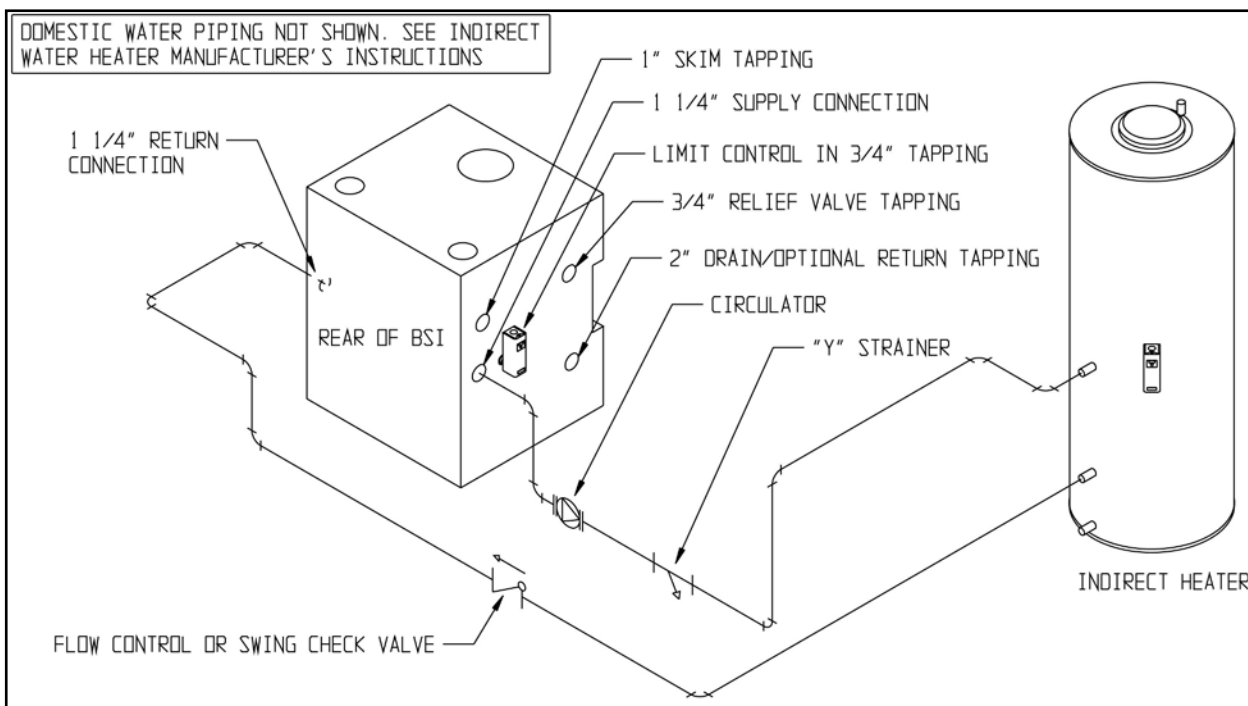
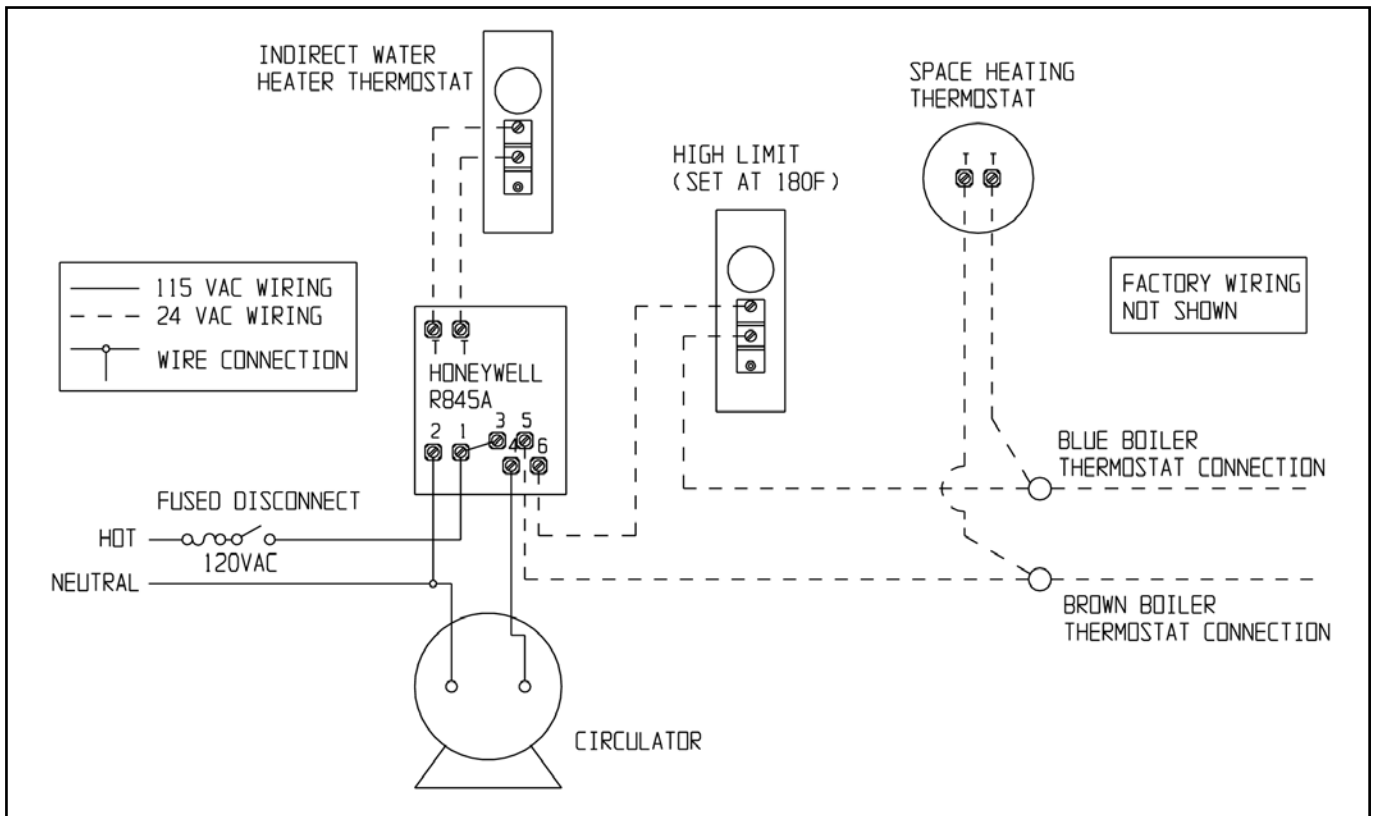

FIGURE 13: INDIRECT WATER HEATER BOILER-SIDE PIPING
FIGURE 15: WIRING INDIRECT WATER HEATER TO BOILER
- 1) **Circulator** - Mount the circulator as shown in Figure 13. The circulator should be located as low and as close to the boiler as practical. Do not install valves, or other devices having a significant pressure drop, between the boiler and the circulator inlet. All piping between the boiler and the circulator inlet should be 1", regardless of the size of the piping required in the rest of the system. See Figure 15 in Part X for wiring information.
- 4) **Boiler Limit Control** - Use a SPST break-on-rise temperature limit control such as the Honeywell L4006A. Do not set the limit above 180°F as doing so may cause the boiler to steam when there is no call for heat. See Figure 15 for wiring information.
Figure 15 shows field wiring for an indirect water heater. A Honeywell R845A or equivalent DPST relay and transformer is required. The high limit described in Part IX must also be supplied by the installer. A call for heat from the indirect water heater thermostat will energize the relay making both sets of contacts. One set of these contacts then energizes the circulator. The other set of contacts will make the “T” and “T” contacts on the burner primary control, firing the burner. If the boiler water temperature exceeds the high limit setting of 180°F, the high limit will open the “T”-“T” circuit and the burner will shut down.